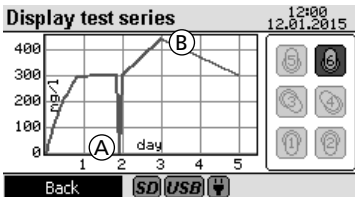

Figure 11
**Underrange (A)** is shown with zero and **Overrange (B)** is shown with the maximum display value for the measuring range. If a measurement is unsuccessful, the measurement can be ignored, see Figure 11.